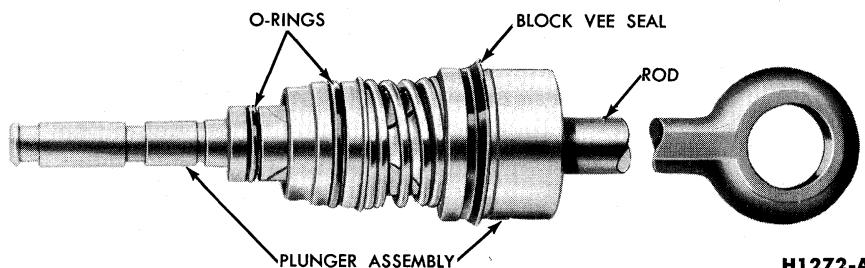

FIG. 28—Valve Operating Rod and Plunger Assembly
14. Remove the O-rings and the "Block Vee" type seal from the valve plunger (Fig. 28).
2. Install the "Block Vee" type seal and the O-rings on the valve plunger assembly (Fig. 28).